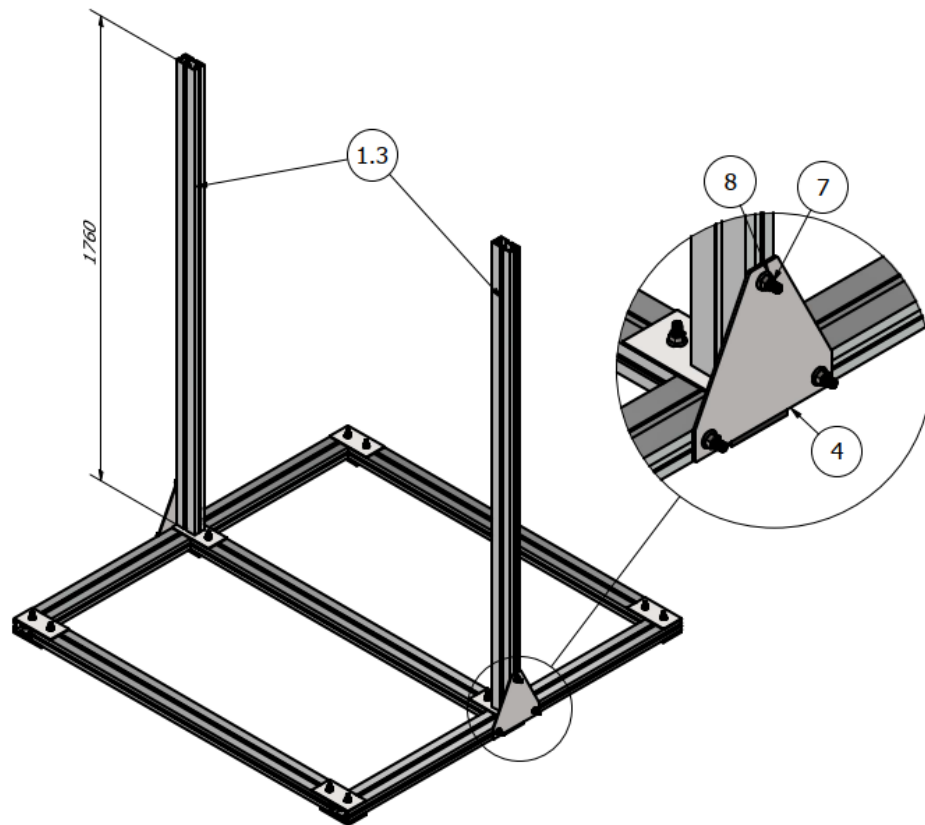

FIG. 4 Installation of vertical columns
4. Using sheet metal **4**, bolt the vertical posts **1.3** to the base as shown in Fig. 4.